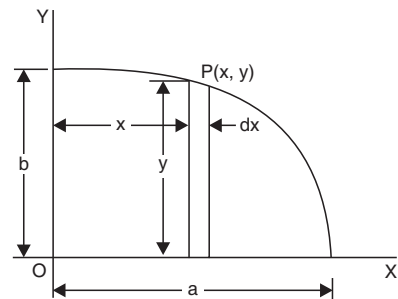

Fig. 4.34
**Example 4.13.** Find the position of centre of gravity of the plane lamina in the form of a quarter of an ellipse, shown in Fig. 4.34.
**Sol.** Refer to Fig. 4.34.